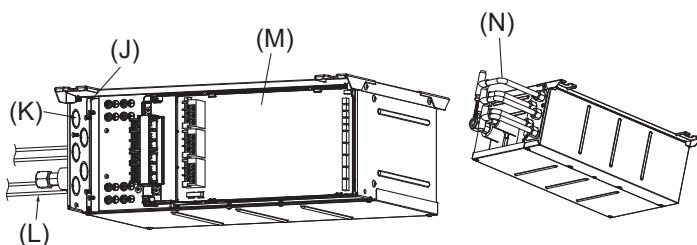

Fig. 8-6
- When installing the conduit plate (J), cut out only the knockout holes that are necessary for wiring (B). Cutting out unnecessary knockout holes may cause damage due to the invasion of small creatures and the like.
- Also, when installing the conduit plate, beware that no gap exists between the plate and the conduit pipes or the conduit holes, otherwise it may cause failure of the controller board due to the invasion of small creatures or insects. (Fig. 8-6)